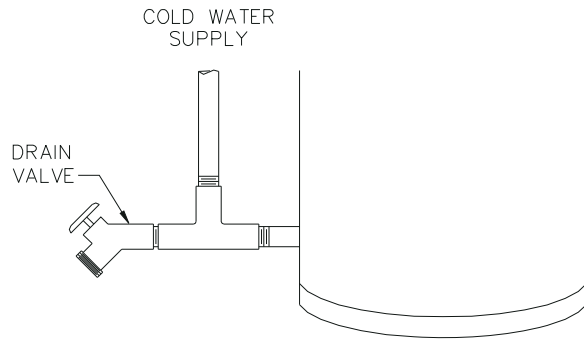

Figure 1: Water Inlet
- a. **Cold Water In.** Install brass tee and drain valve (not provided). Install shutoff valve between water supply and cold water inlet for ease of service. See Figure 1.